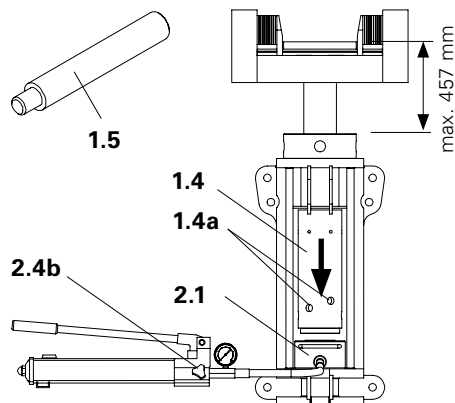

Fig. 21
4. Turn spindle sleeve with Mounting Shaft VST downwards until spindle sleeve rests on hydraulic cylinder. (Fig. 21)